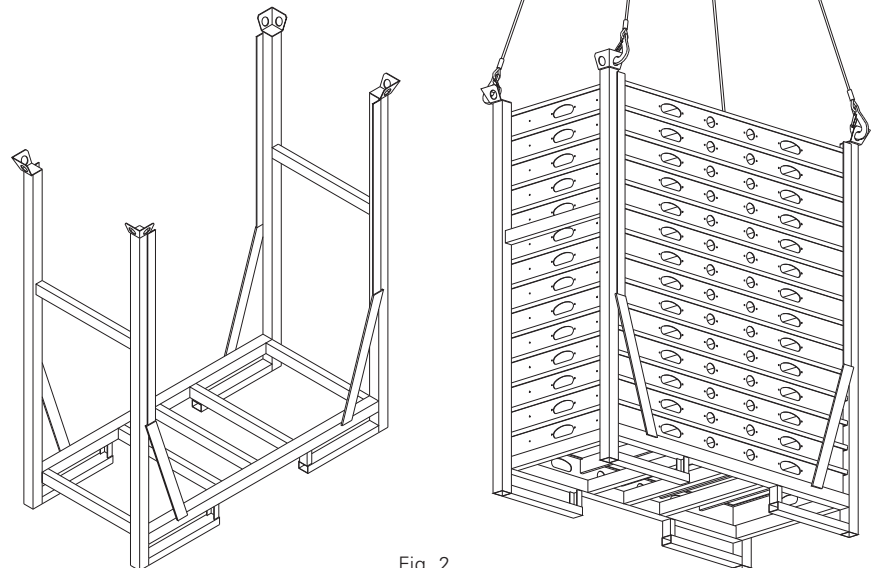

Fig. 2
- Pallet SD: 14 pieces (Fig. 2)